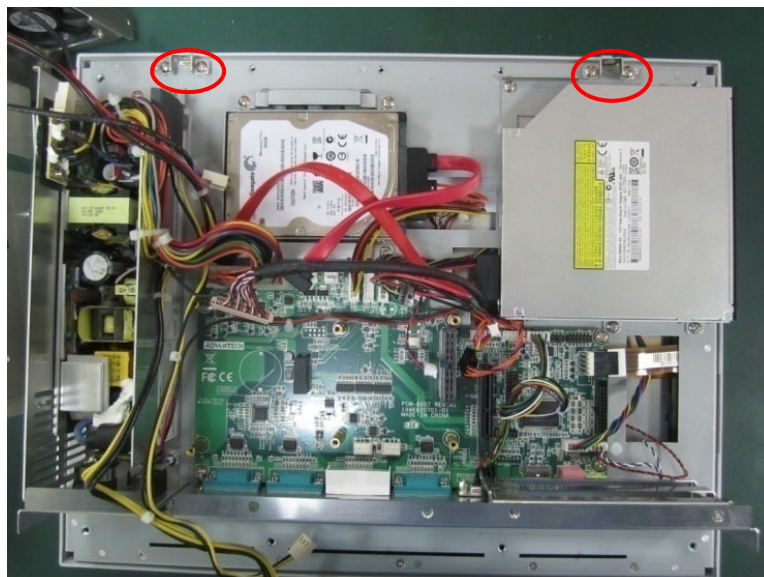

Figure 2.27
1. First take down wireless LAN card antenna bracket. (See Fig 2.27)